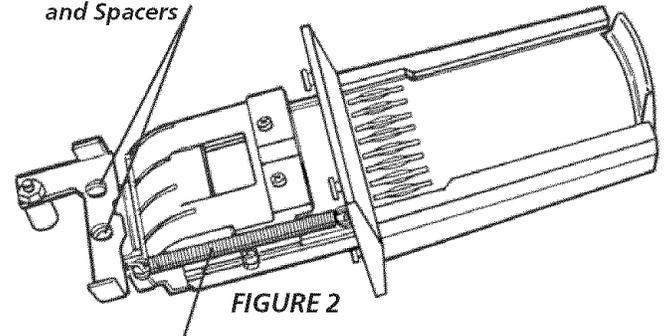

FIGURE 2
Remove the coin slide extension from coin slide by removing two mounting screws and spacers (see FIGURE 2).
- Unhook and remove the coin slide return spring (see FIGURE 2).